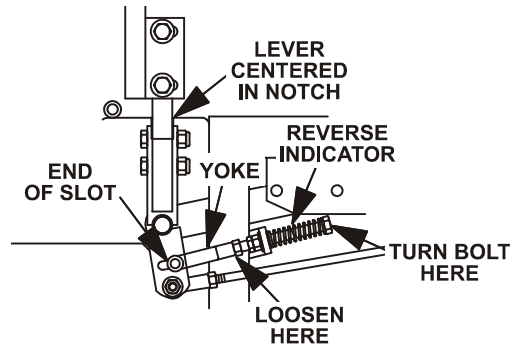

FIGURE 16
- Begin with either the left or right motion control lever. Move lever to the neutral position and pull lever back until the clevis pin (on arm below pivot shaft) contacts the end of the slot (just beginning to put pressure on spring), See Figure 16.